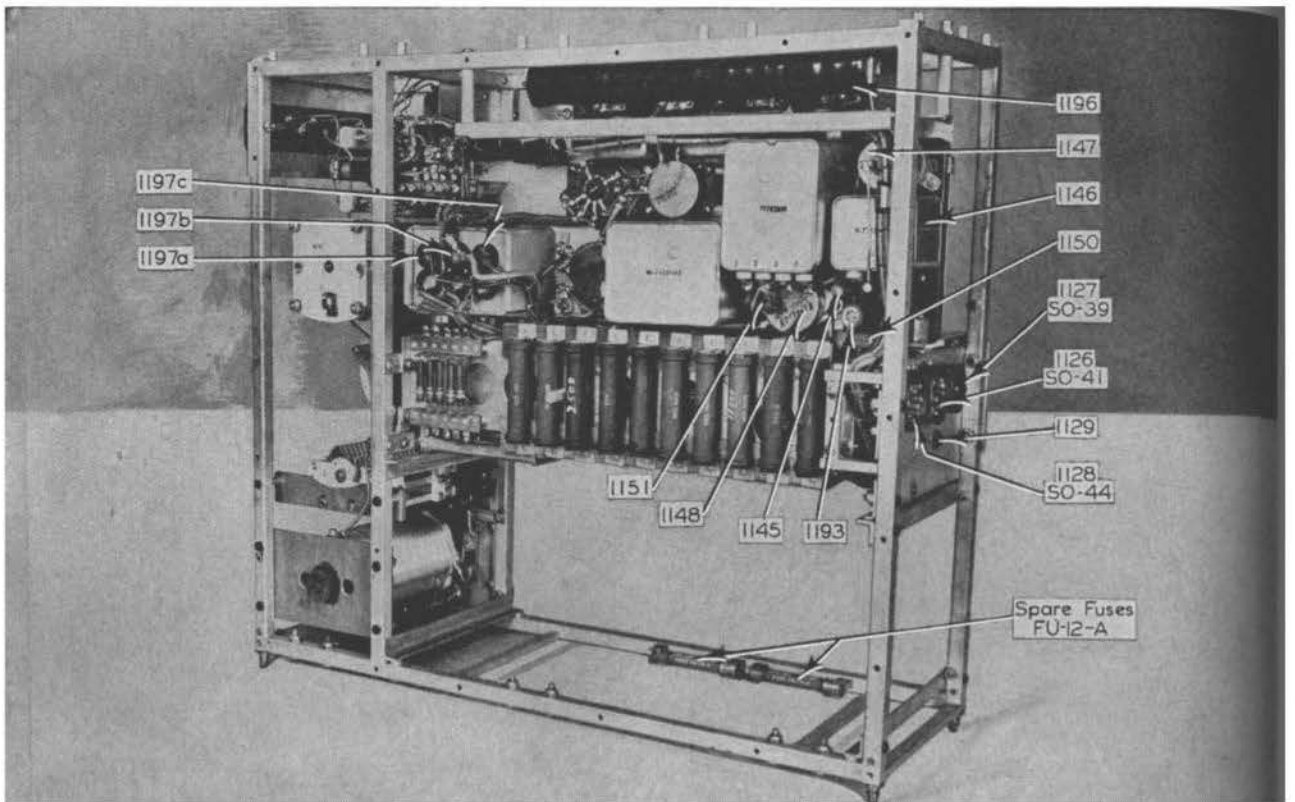

Figure 72. Radio Transmitter BC-375-D, Rear View, Mounting FT-151-A and Shields Removed
- (5) Plate voltage of 1000 to 1100 volts should be obtained between terminal 61 of Socket SO-39 and ground, Figure 72.
- (8) Microphone-supply voltage or 4.5 to 5.3 volts DC should be obtained across resistor 1145, Figure 72. For this test, the microphone should be in the circuit.